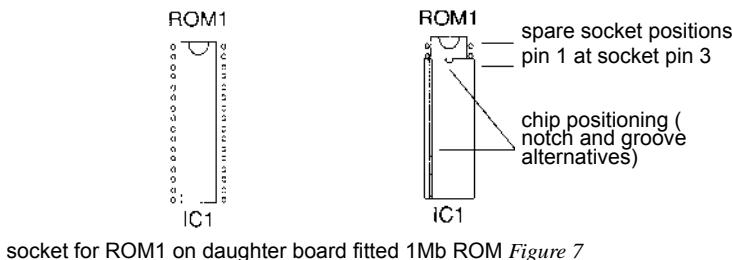

Figure 7
- 4 If you are re-using the RISC OS 2 1 Mb ROMs, you will notice that each socket on the daughter board has 32 pins whereas each chip has only 28, leaving four pin positions unused. Align the chip so that the four free positions are at the notched end of the socket, as shown in Figure 7 below, taking note of the following rules:
- If the chip has a groove down one side, position it so that the groove is on the left side of the chip (see Figure 7).